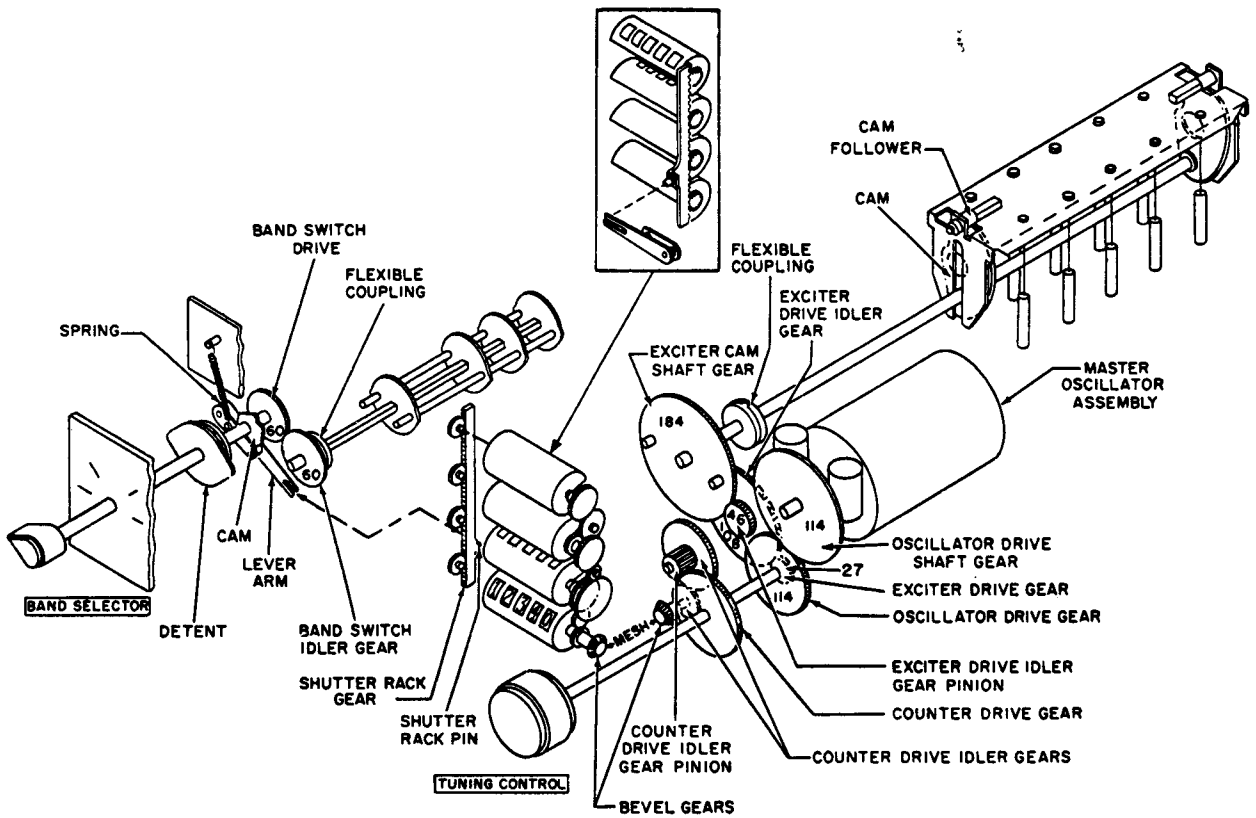

Figure 31. Oscillator-multiplier tuning drive mechanism, functional diagram.
(fig. 31)
b. The powdered iron cores of the inductors in the multiplier tank circuits are mounted on a rack which is raised and lowered by two cams and two cam followers. The camshaft is driven by a 184-tooth exciter camshaft gear through a flexible coupling. The camshaft gear is driven from the TUNING CONTROL knob through a 27-tooth exciter drive gear, a 108-tooth exciter drive idler gear, and a 46-tooth exciter drive idler gear pinion. The powdered iron cores can be individually raised or lowered from the top of the rack for alinement purposes. Master oscillator tuning inductor L801 is located inside the sealed master oscillator assembly. The core of L801 is tuned by the tuning control through a 114-tooth oscillator drive gear, a 114-tooth oscillator drive shaft gear, and additional parts inside the sealed assembly. The frequency counters are driven by the tuning control through a counter drive gear, a counter drive idler gear pinion, meshing counterdrive idler gears, and meshing bevel gears. All four counters are driven simultaneously through additional gearing as shown in the box insert of figure 31.